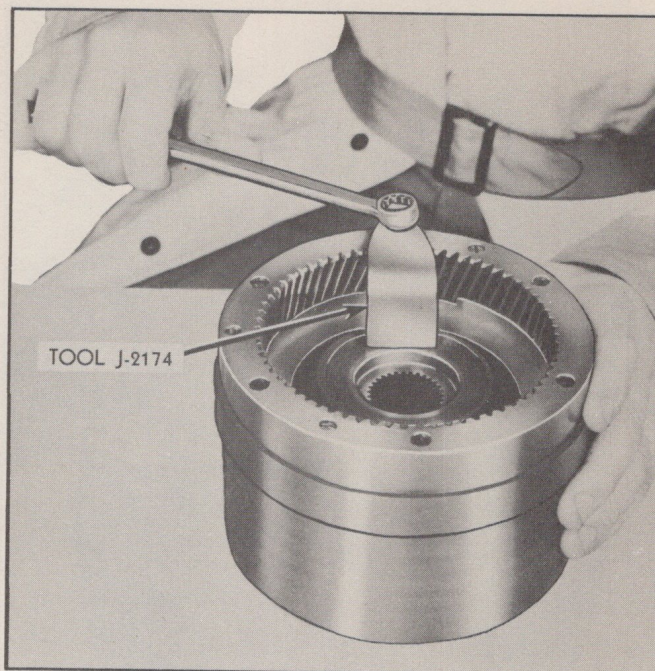

Fig. 253—Installing Rear Hub Tool
15. Install rear clutch hub holding tool, J-2174, on rear drum to hold hub in place. Use one reverse drive flange attaching bolt to hold tool (Fig. 253).